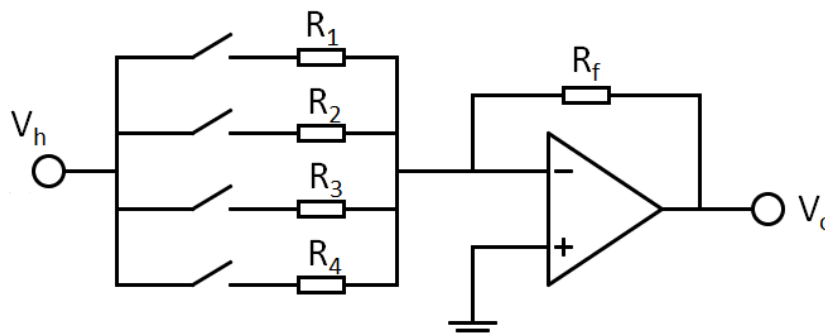

Fig 3: Schematic of DAC for Lab Task 2
- 2.1 **Switch off** the voltage supply to the op amp first. Then begin to build the circuit in Fig 3 (modified from Fig 2). We will use a 4-channel SPST switch to provide us with the $2^4 = 16$ different input binary combinations.
In this final part of the lab, you will extend the circuit from Lab Task 2 to have an LED alarm that lights up when the input combination exceeds a minimum set value. This can be achieved using a comparator which compares the output of the DAC in Fig 3 to a reference voltage (V_{ref}). The output of the comparator saturates either towards the negative or positive supply depending on the relative voltage difference between the inverting and non-inverting terminals.